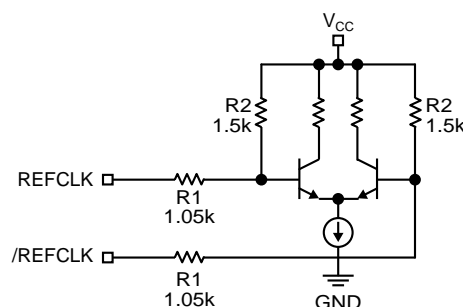

Figure 3. Simplified Input Structure
- 100Ω termination across the output pair is NOT recommended for LVPECL. See “Output Termination” section, Figures 3 to 5.